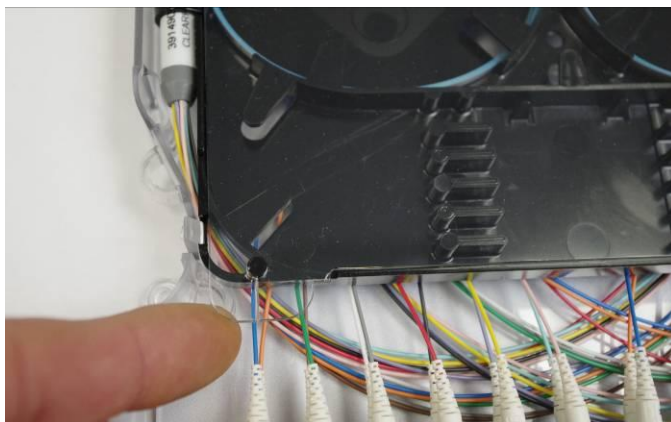

Figure 2
- Step 2:** Remove the splice tray cover by lifting up on the two tabs in the corners of the cover, and then by moving it slightly forward (**Figure 2**).